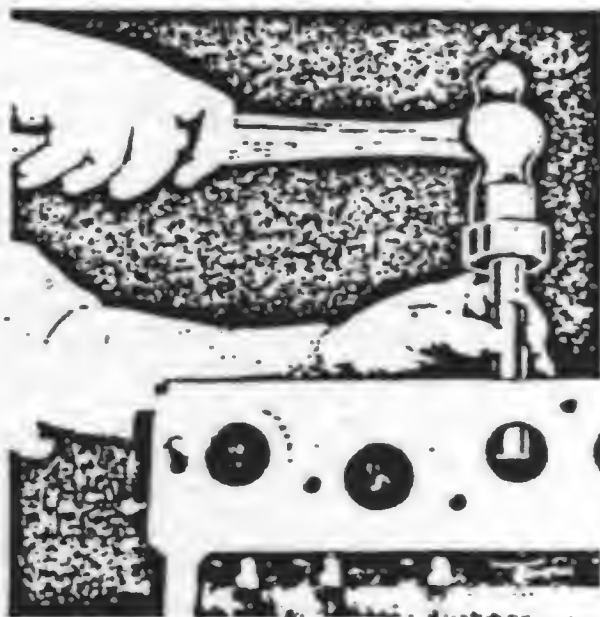

FIG. 20 INSTALLING VALVE GUIDES
(2) The valve guides are installed with a replacer or a driver as shown in (Fig. 20). Taking a piece of half-inch round stock 6' long and turning down one end to  $\frac{3}{8}$ " diameter 2' long will make a suitable driver.